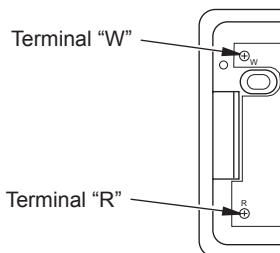

Figure 25 - Thermostat Base Terminals "W" and "R"
7. Connect one bare wire end to each terminal ("W" and "R") of the thermostat base (see Figure 25).